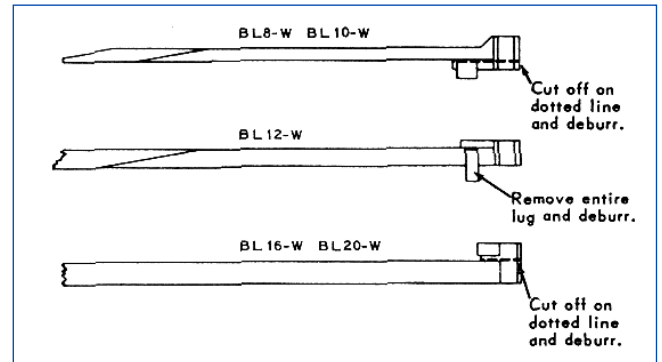

FIGURE 1
2. Mandrels used with P-190 Valve Guide Set are supplied with a standard Wedge for use in Sunnen Honing Machine. To use wedges not supplied, alter it as shown (see Figure 1).